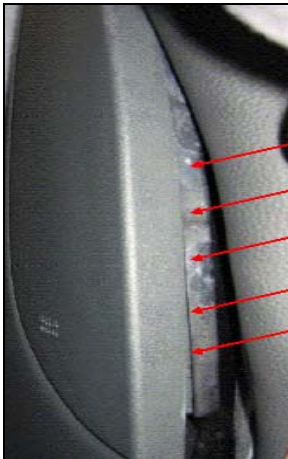

Figure 14 S-B-91.10/112a
2. Apply special sliding compound (A000 989 36 60) from the inside on the cover of the side airbag close to the graining (Figure 14)